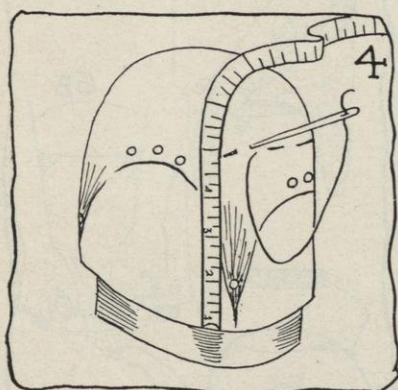
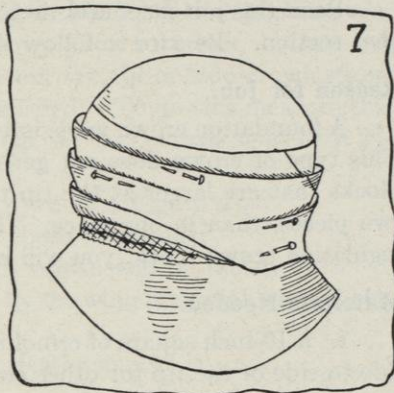

FIG. 4.
FIG. 7.
If your crown block is higher in one place than another, graduate the 4-inch basting evenly. This basting is to guide you in sewing on the side crown (see Figure 4). The tip may be made small or large, according to fashion or according to the type of crown that is being used. In that case you would measure more, or less, than 4 inches, as desired, from edge of block
- a. Read and follow Sections 6, a, b, c, and 7 of Job 39 (pages 156 and 157). Be sure to look back at Figure 4 A and B of that job (page 156).
- a. Read and follow Sections 8 a (1), (2), (3), (4), and (5) of Job 39 (page 157).
e. Place crown on brim, as shown in Sections 8 *a* (1) through (5) of Job 39 (page 157).
f. Drape side crown and pin (see Figure 7).